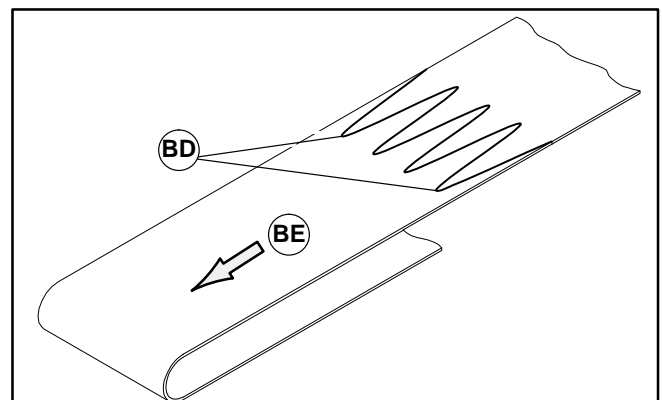

Figure 29
1. Orient conveyor belt so the splice leading fingers (BD of Figure 29) point in the direction of belt travel (BE).
1. Orient conveyor belt so that the splice leading fingers (BD of Figure 29) point in the direction of belt travel (BE) as identified by the label (BC of Figure 32).